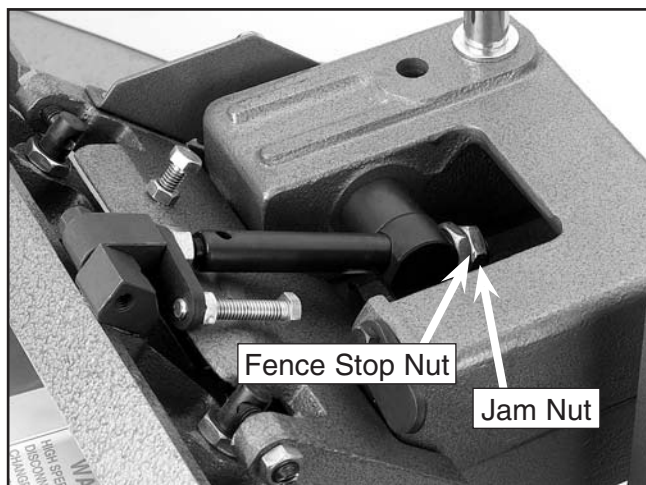

Figure 48. 45° inward fence stop jam nut.
2. Loosen the jam nut shown in **Figure 48**.